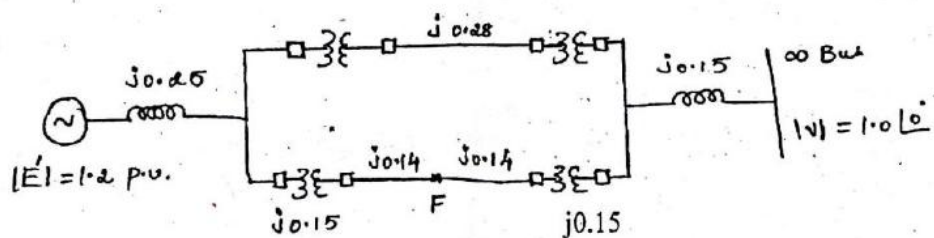

Fig.15.a.
15. (a) (i) Discuss the methods by which transient stability can be improved. (6)
- (ii) Find the critical clearing angle of the system shown in Fig. 15.a., for a 3 phase fault at the point 'F'. The generator is delivering 1.0 pu. power under prefault conditions. (10)